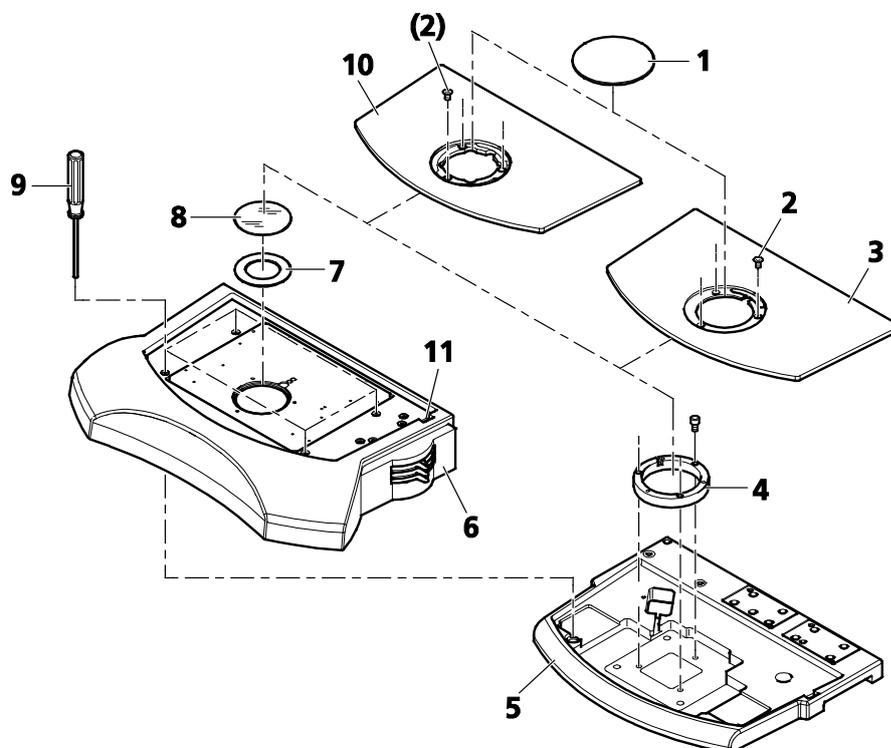

Fig. 20 Mounting transmitted light unit S
- Remove the base insert plate (Fig. 20/3). To do this loosen the short socket head screws (Fig. 20/2), lift the insert plate (use recessed grip on the right edge of stand base (Fig. 20/5) for the purpose) and lift securely with both hands.
- Loosen the three socket head screws (SW 3) on the adapter ring (Fig. 20/4) using a ball-headed screwdriver and remove the adapter ring.
- Insert the transmitted light unit (Fig. 20/6) onto the stand base. The two large plastic taper pins on the bottom of the transmitted light unit must click into the stand base.
- Use the ball-head screwdriver (Fig. 20/9) to screw down the four countersunk socket head screws (SW 3) hand-tight on the transmitted-light unit.
- Lay the base insert plate (Fig. 20/3) onto the transmitted light unit (Fig. 20/6).
- Insert the opal glass plate  $\varnothing$  84 mm (Fig. 20/8) to prevent screws and other small parts from being lost in the course of further installation work.
- Use the three short socket head screws (Fig. 20/2) to fasten the base insert plate (Fig. 20/3) (without stage adapter) to the transmitted-light equipment.
- Replace the opal glass plate  $\varnothing$  84 mm (Fig. 20/8) with insert 52/84 (Fig. 20/7).
- Insert glass plate 120 mm (Fig. 20/1); press on rear edge to remove it again.
- Remove glass or B/W plate (Fig. 20/8) and insert 52/84 (Fig. 20/7).
- Remove the base insert plate (Fig. 20/3). To do this, loosen the short socket head screws (Fig. 20/2).
- Install the ferromagnetic insert plate 450 (Fig. 20/10) or heatable insert plate 450 and secure with three socket head screws.
-  If the heatable ferromagnetic insert plate 450 is used, pass the two heating cables side-by-side through the cut-out in the insert plate and secure with three clamps. Then pass the two heating cables to the outside through the lateral cavity (Fig. 20/11) in the transmitted light unit S and connect to controller SC 300.